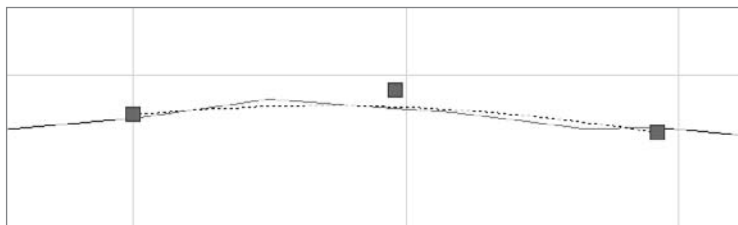

Figure A.4
8. Click the green checkmark in the upper-right corner of the `Regression Data Panorama`. A parabola appears that is a best fit for the line data, as shown in Figure A.4.